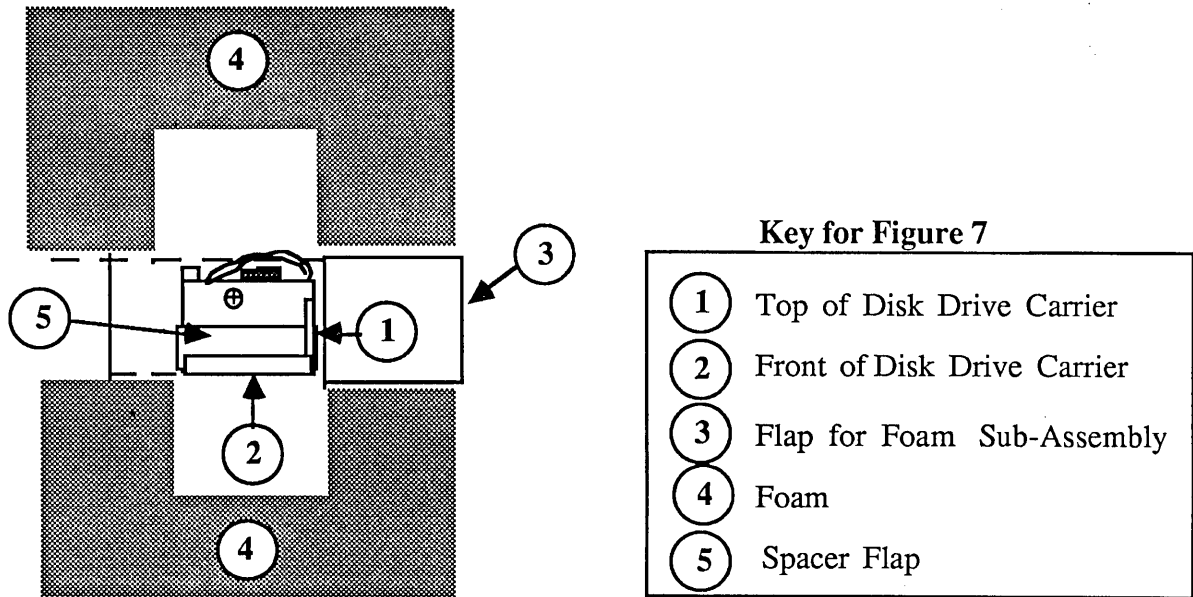

FIGURE 7
11. While holding the flaps next to the sides of the carrier, lay the carrier on its side on the foam sub-assembly (Figure 7).